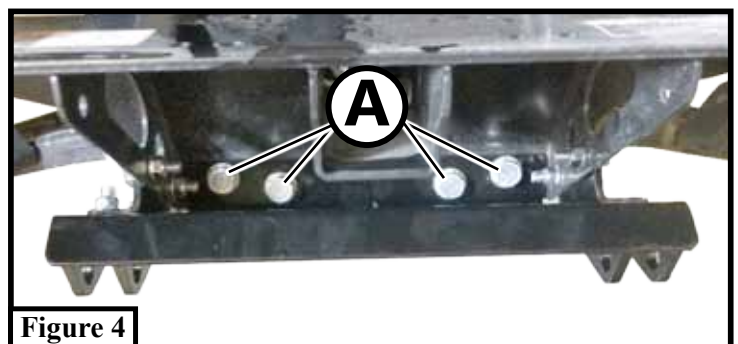

Figure 4
3. Hold plow mount (1) in place and loosely secure to OEM front receiver using bolts (A) removed in step 2 as shown in **Figure 4**.